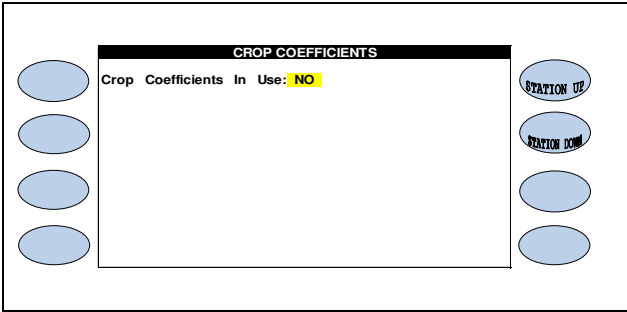

Figure 8
11.  Press the **CROP COEFFICIENTS** Menu key, this will take you to the Crop Coefficients screen (Figure 8).